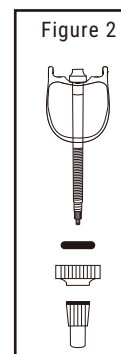
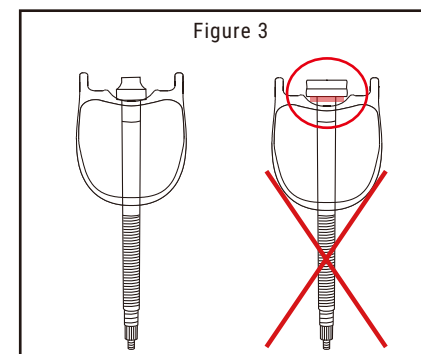

Figure 2
Figure 3
- For the installation of the tubeless valve, please see Figure 2 and Figure 3. Ensure that the provided O-ring seal is positioned correctly between lock-ring and rim (see Figure 2) Attach the lock-ring to the valve and tighten it finger tight. Do not use any kind of tools to tighten the valve lock-ring.